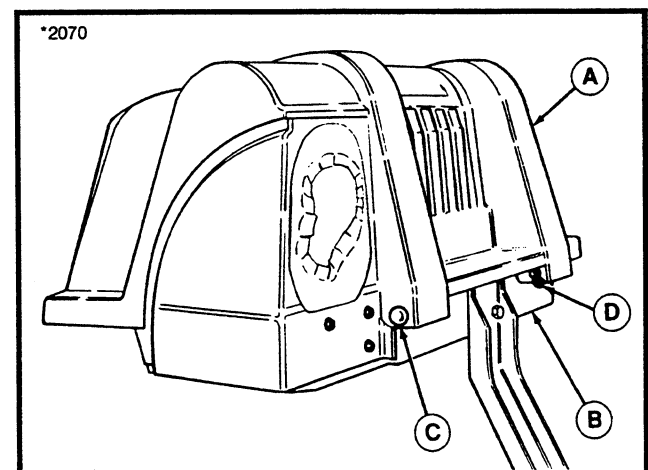

Figure 5.
6. Reinstall grass catcher cover (A, figure 5) to support (B) and secure with clevis pins (C) and clips (D).